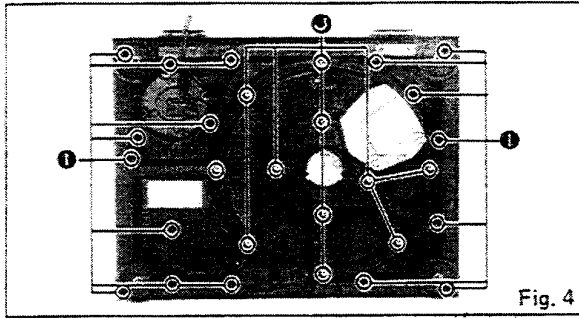

Fig. 4
9. Remove 17 screws and spacer **I** as show in Fig. 4.
10. Remove 11 screws **J** as shown in Fig. 4.